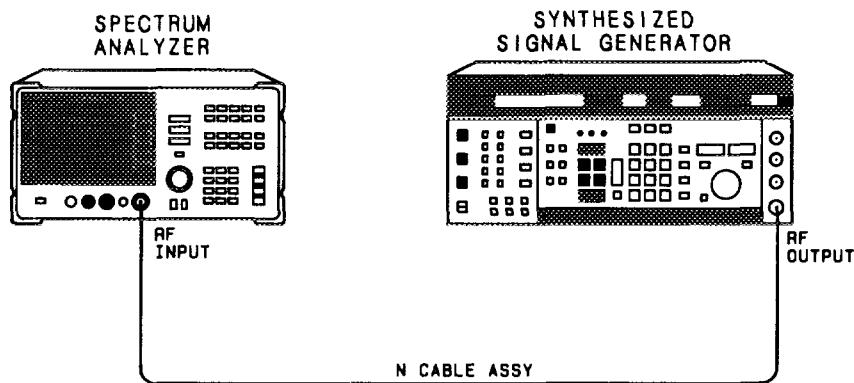

Figure 3-11. Noise Sidebands Test Setup
1. Connect the equipment as shown in Figure 3-11.